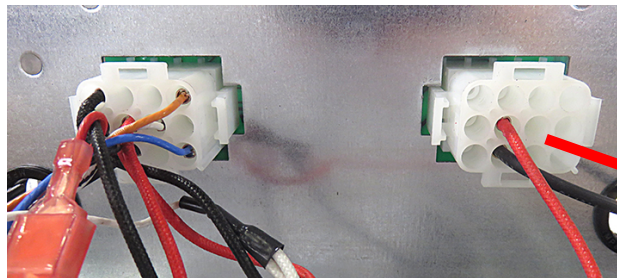

Figure 9
11. On the rear of the control box are two (2) connectors that attach to the rear of the interface board (see Figure 9). The photo is viewed from inside from the rear of the fryer. *Note the Pin 1 is on the lower right corner. From the front of the fryer it would be on lower left.
12. Reach up through opening where blower was removed and locate the plugs shown above in Figure 9.